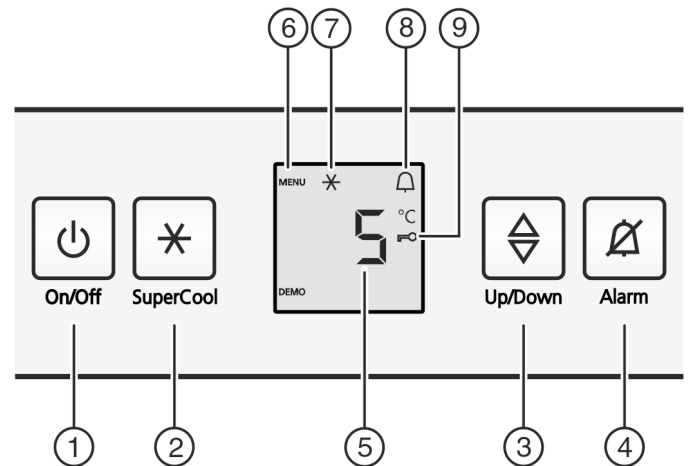

Fig. 2
- ▶ Press the On/Off button Fig. 2 (1).
- ▶ Press the SuperCool button Fig. 2 (2) for about 5 seconds.
- ▷ The Menu symbol is shown on the display, Fig. 2 (6).
- ▶ Confirm briefly with the SuperCool button *Fig. 2 (2)*.
- ▷ The child lock symbol, *Fig. 2 (9)*, lights up on the display.
- ▶ Briefly press the On/Off button *Fig. 2 (1)*.
- ▶ Press alarm button *Fig. 2 (4)*.
- ▶ Call up temperature function: press the setting button *Fig. 2 (3)*.
- ▶ Change the temperature in 1 °C steps: Press the setting button *Fig. 2 (3)* until the required temperature is indicated in the temperature display.
- ▶ Briefly press SuperCool button *Fig. 2 (2)*.
- ▷ The SuperCool *Fig. 2 (7)* symbol lights up in the display.
- ▷ The SuperCool symbol *Fig. 2 (7)* goes out in the display.